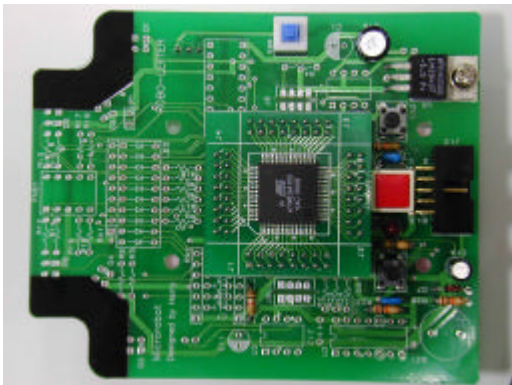

Fig 2.11
(7) Turn off power. Disconnect connector at position J9. Bend legs of 6MHz crystal and insert in the X-TAL1 position. Solder head and legs.
(8) Insert the 20pF ceramic condensers in positions C9 and C10. Solder.
(9) Insert the 10K $\Omega$  resistors in positions R20 · R21 · R22. Insert the 1K $\Omega$  resistor in position R1. Insert the 470 $\Omega$  resistor in position R25. Solder.
(10) Insert diode 1N4148 in position D7. Make sure the line is toward Cathode. Solder.
(11) Insert the 1uF electrical condenser in position C14. Insert the 104 monolithic condensers in positions C8 · C12 · C13 · C18 · C19. Solder.
(12) Insert the red LED in position D10. Make sure the short leg is toward Cathode. Solder.
(13) Insert the 2×5 angled connector in position J12. Solder.
(14) Insert the red switch in position SW1. Insert the tack switches in positions SW2 · SW3. Solder.
(15) Insert the 2×8 female connectors in positions J1 · J2 · J3 · J4. Solder.
(16) Attach the CPU board to the 2×8 female connectors.(Refer to Fig 2.11)
(17) Attach the downloading adaptor to the printer port on the PC. Attach the flat cable to the downloading adaptor and 2×5 angled connector.
(18) Connect female angle connector 5051 to the 5045 male connector. Depress push switch. Download the executable program using the ISP program. Check for errors.